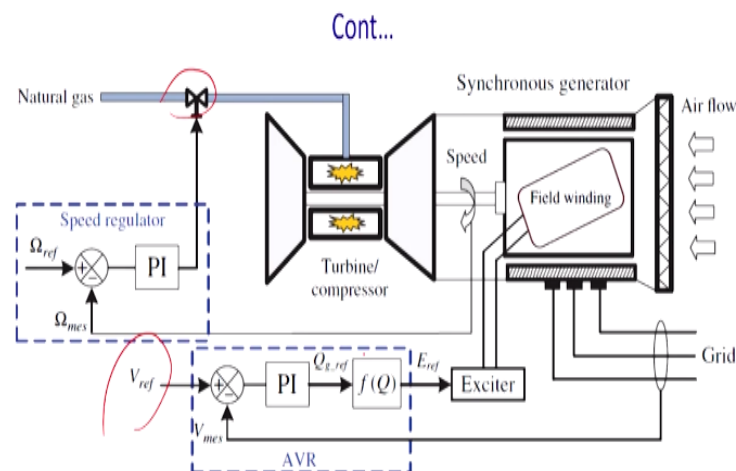

Fig.1 Scheme of an isochronous speed control system of gas turbine
- The energy being admitted in the prime mover is regulated in response to the load changes, which would tend to cause changes in the speed. This control mechanism for a gas turbine is shown in Fig.1.